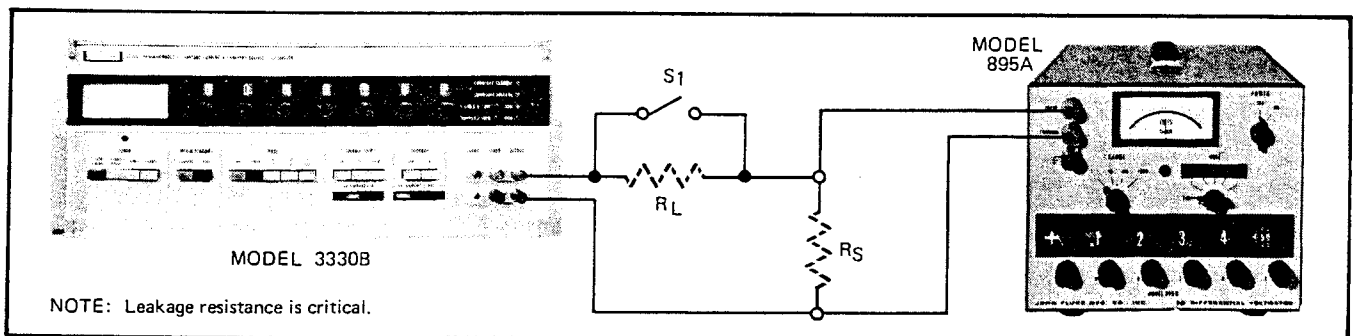

Figure 4-1. MA MODE REGULATION CHECK-EQUIPMENT CONNECTIONS
- c. Make the equipment connections shown in Figure 4-1. R_L is 1M, 2W and R_S is a 1K, 0.002W